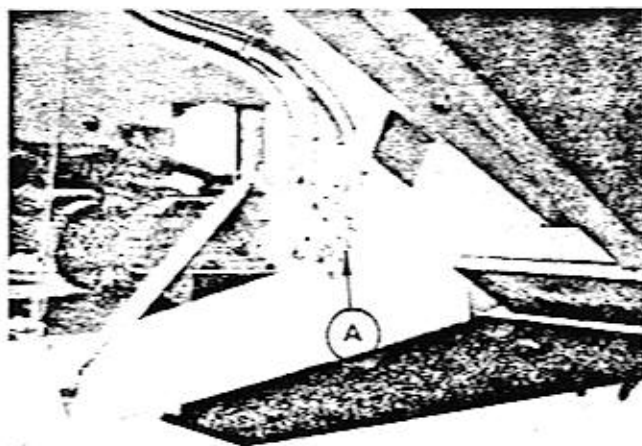

Figure 5-4
e. Loosen the capscrew which secures linkage arm to sensor shaft. Then, use an offset flat blade screwdriver to turn the sensor shaft. (A Figure 5-4). Turn shaft (either way), as required, until cutter drum teeth just touch pavement. See Figure 5-4. Tighten capscrew to lock linkage to sensor shaft.
CHECK YOUR ADJUSTMENT Lift front ski by hand; machine should rise. If not and machine wants to drop, turn item A (Figure 5-4) sensor shaft 45° and recheck.